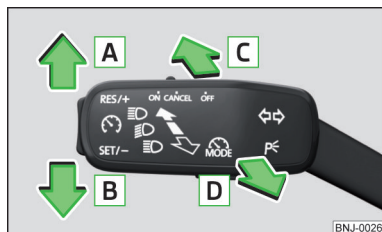

Fig. 48
Lever positions » Fig. 48
- Press the control lever to position **A** or **B** as far as the stop » Fig. 48 on page 61.